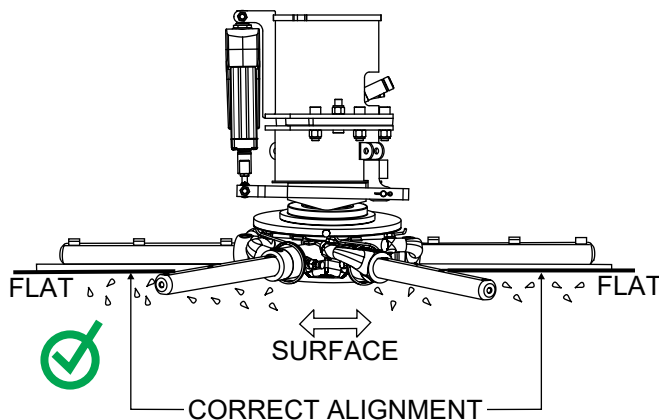

Figure 40. Correct Spider Alignment
2. Pitch the blades as flat as possible. The adjustment bolts should all barely make contact with the lower wear plate on the spider. Figure 40 illustrates the correct alignment for a spider assembly as shipped from the factory.